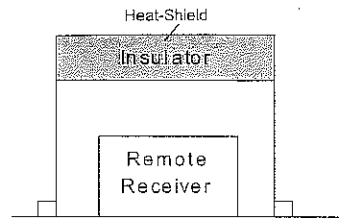

Figure 6
7. In order to prevent the Remote Receiver (fireplace installation only) from overheating, put a heat shield (option item) above the Remote Receiver. See *Figure 6*.